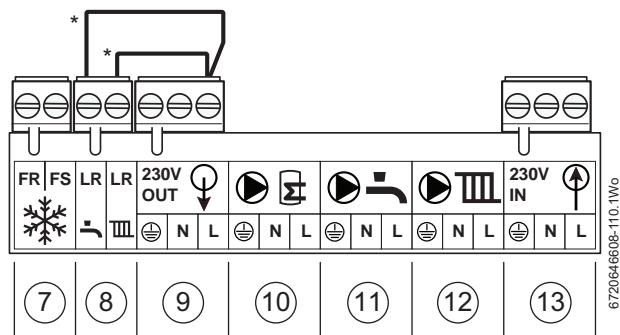

Fig. 42 Mains voltage connectors
Table 22 Key to figure 42
▶ When connecting Worcester plug-in or EMS intelligent controls, the links (→ items 8 & 9 in figure 42) must be left in the connection points.